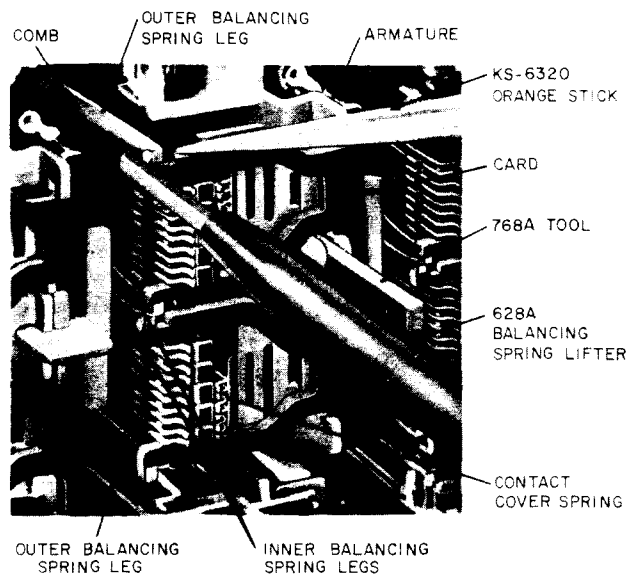
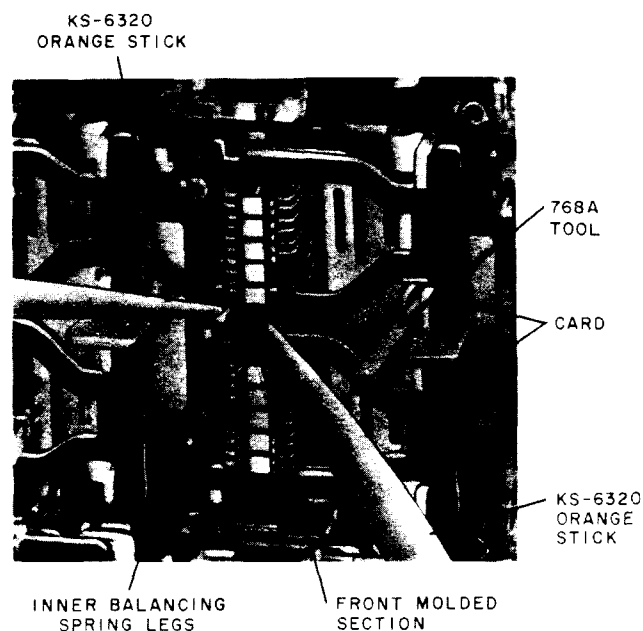

Fig. 25—Disengaging Outer Balancing Spring Leg From Upper Card
Fig. 26—Disengaging Inner Balancing Spring Leg From Upper Card
4.11 *Balancing Spring Legs Engaging Upper Card:* Block the associated armature in the operated position with the 768A tool. To disengage the outer leg of the balancing spring, hold the 628A balancing spring lifter in the left hand and insert the lifter next to the leg so the end of the lifter is just behind the comb. Roll the end of the lifter under the leg of the spring so the leg rests in the groove of the lifter. Draw the lifter forward to the position shown in Fig. 25. With the other hand, place the end of a KS-6320 orange stick on the top edge of the card as shown in the figure. Lift the spring upward with the lifter and, at the same time, press the card downward with the orange stick. When the leg of the spring clears the top of the card, move it toward the left so it is free of the card. Withdraw the spring lifter. To disengage the inner balancing spring leg from the card, hold the orange stick in the right hand and insert it between the two cards so the end of the orange stick is against the front molded section. Rotate the orange stick to separate the cards. With a second orange stick, push down on the end of the balancing spring leg as shown in Fig. 26 and disengage it from the notch in the card. Remove the wedge.